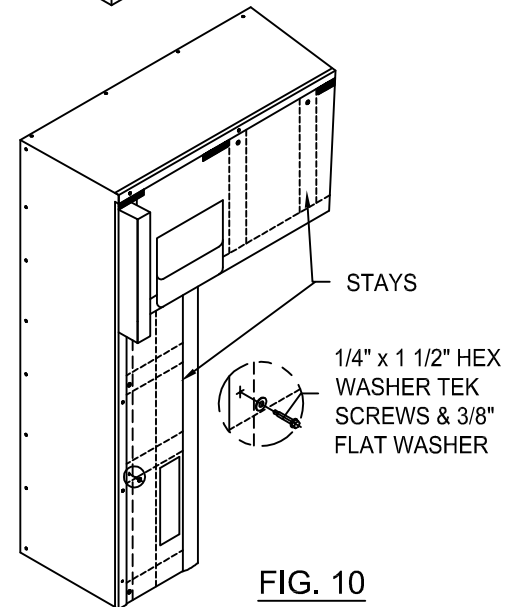

FIG. 10
*Using 1/4" x 1 1/2" hex washer tek screws along with 3/8" flat washers; fasten vertical panels and header curtain by screwing through the center of each stay, close to the top of each stay (FIG. 10).